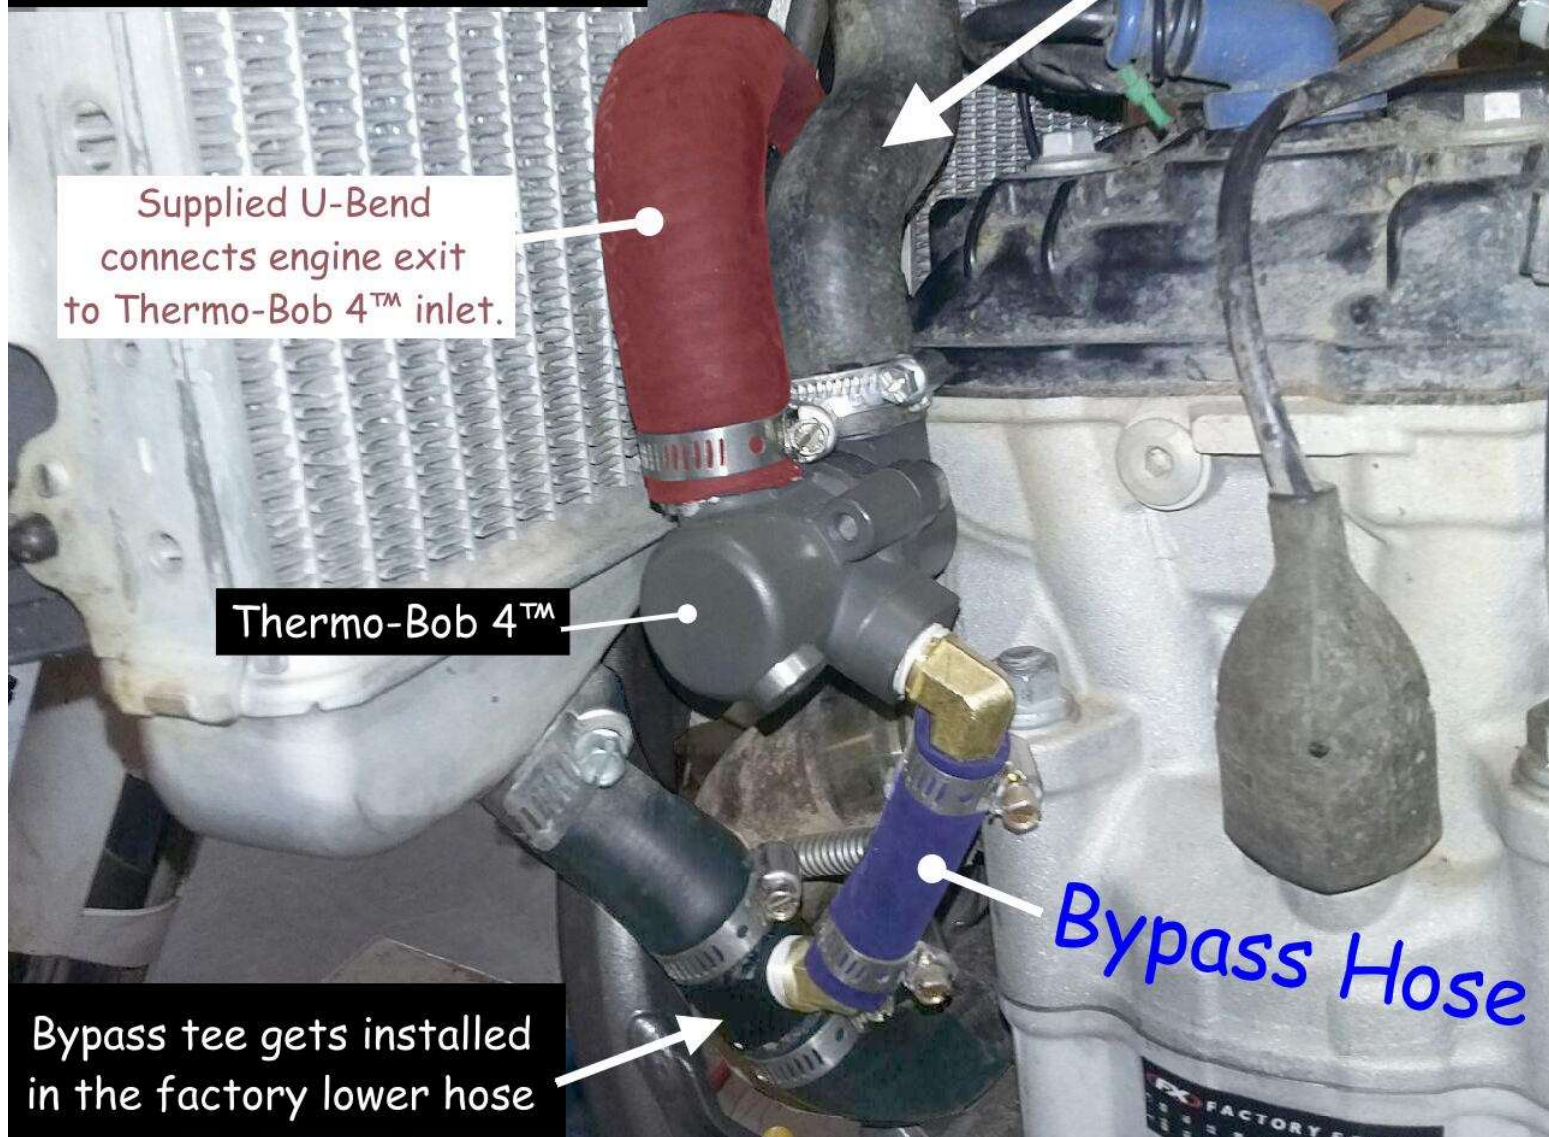

Figure 1.
Figure 1 on the next page shows a completed installation. Details are described below:
- 1) Remove the factory 'S-shaped' radiator hose that connects the engine exit to the barb under the top frame tube: Reinstall the upper end of the hose back on the frame barb, but rotate the hose 90° CCW (from above, looking at the ground) so the open end of the factory hose can be connected to the Thermo-Bob 4 exit as shown in Figure 1. Re-use your two KTM hose clamps, one on each end of the S-hose, but don't tighten them yet.
- 2) Take the supplied U-Bend (colored as reddish-brown in Figure 1) and connect the engine exit to the Thermo-Bob inlet as shown. The "long end" of the U-bend goes on the Thermo-Bob. Install, but don't tighten two of the large supplied clamps, one on each end of the U-bend.
- 3) Remove a 5/8 inch (16 mm) long section of the factory lower hose that exits the bottom of the left radiator and insert the supplied bypass tee as shown in Figure 1. Use the other two supplied large clamps, again not tight yet.
- 4) Rotate the bypass tee in the lower hose to best aim the bypass tee's brass barb at the Thermo-Bob 4's brass barb. Cut the supplied bypass hose (colored blue in Figure 1) to length (usually around 2.5 inches, or 64 mm) and slide it onto each of the brass bars as shown. **TIP: Slide the supplied small clamps onto the center of the bypass hose first, then dip both ends of the hose in coolant and wipe off the outside. This will lubricate the inside of the bypass hose ends, making it easier to slide on to the brass bars.**